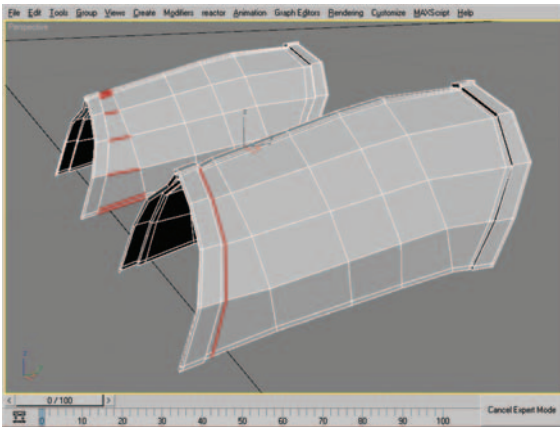

Figure 10.15A Edge-ring selection and resulting edge loop after using Connect.
17. Repeat the process from step 16 on the corresponding edges at the front of the mesh. Figure 10.15A shows the edge-ring selection and resulting edge loop after using Connect and adjusting vertex positions.